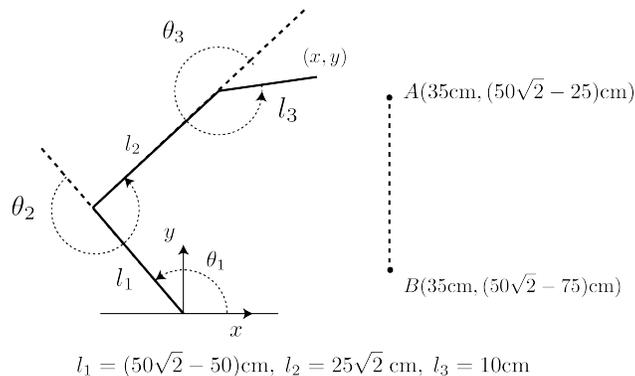

Figure 4: 3 Link manipulator going through a possible singularity.
- Consider now the manipulator in Figure 4 with Jacobian: